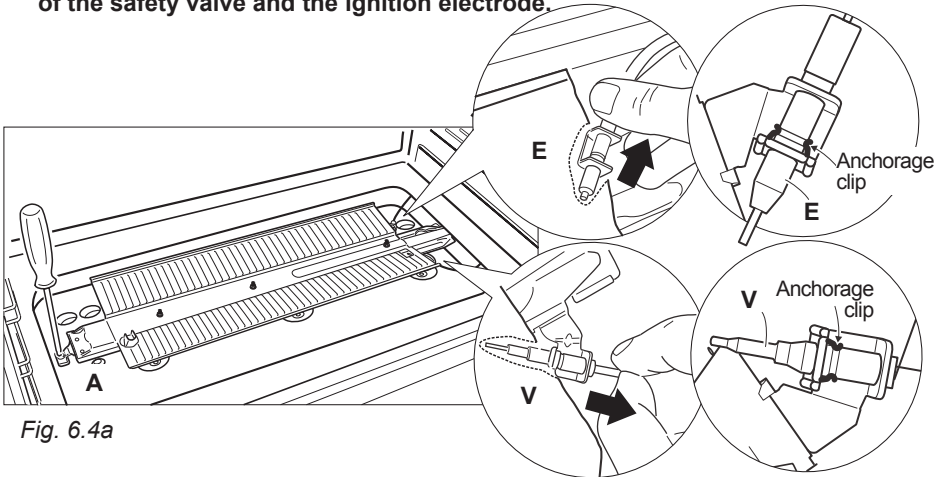

Fig. 6.4a
- Gently unlock, from the burner, the safety valve probe “V” and the ignition electrode “E” (as indicated in fig. 6.4a). Take care not to damage the probe and the ignition electrode.
- Unscrew and remove the burner securing screw “A” (fig. 6.4a).
**IMPORTANT: Pay special attention to replace correctly the safety valve probe “V” and the ignition electrode “E” as per figure 6.4a. Check the correct operation of the safety valve and the ignition electrode.**